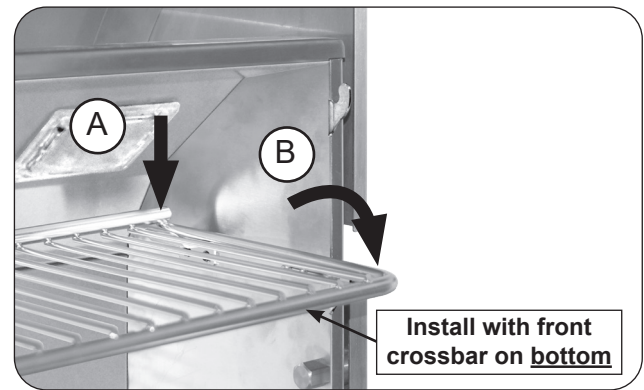

Fig. 32-2 Place warming rack for use
2. With the warming rack oriented as shown, carefully rest the rear of the rack onto the rear support plates (Fig. 32-2, A), then rest the warming rack arms onto the two lower hooks for use (Fig. 32-2, B). Repeat for the other warming rack.